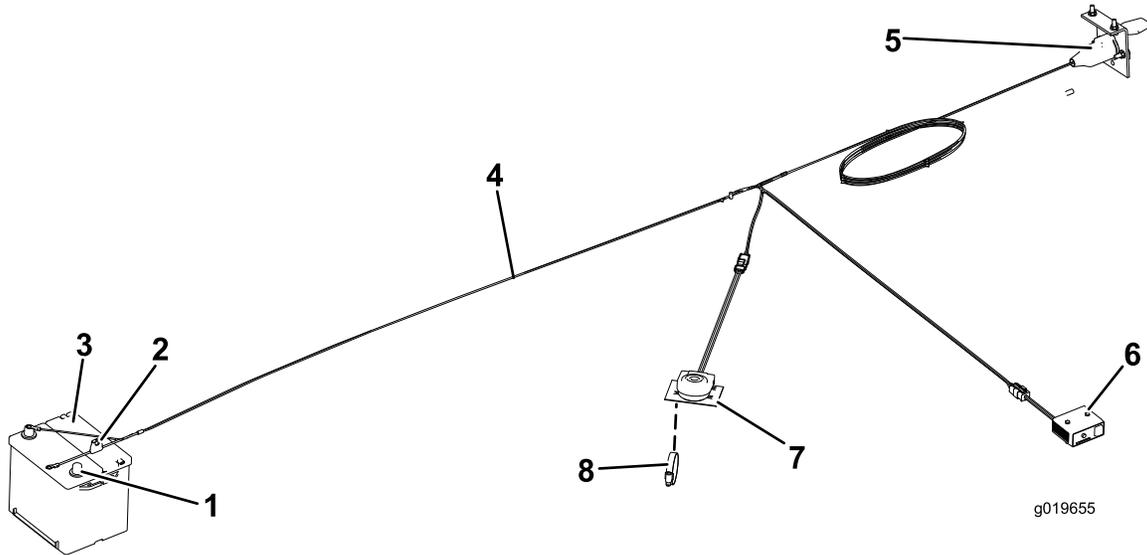

Figure 11
5. Mount the load controller to the tractor dash or the fender with the (2) #10 screws and #10 nuts.
7. Connect the harness to the components (Figure 11) as follows: